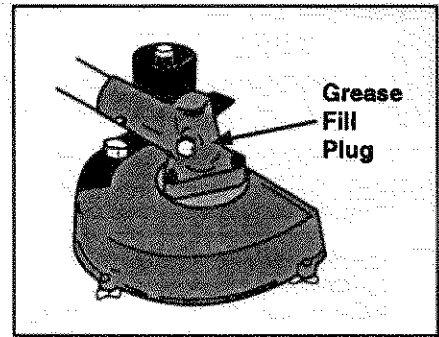

Fig. 14
5. Check the gear housing for lubricant every 50 hours of operation. Remove the grease fill plug to check the lubricant level. It should be up to the bottom edge of check hole. If low, bring up to, but not over, the bottom edge with a good quality, lithium-based, #2, multi-purpose grease. Securely tighten the fill plug to prevent leakage (Fig. 14).